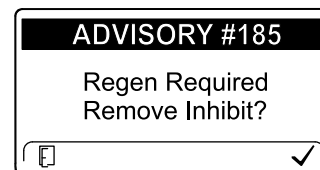

Figure 69
**Note:** If you set the InfoCenter to inhibit regeneration, the InfoCenter displays ADVISORY #185 (Figure 69) every 15 minutes while the engine requests a reset regeneration.